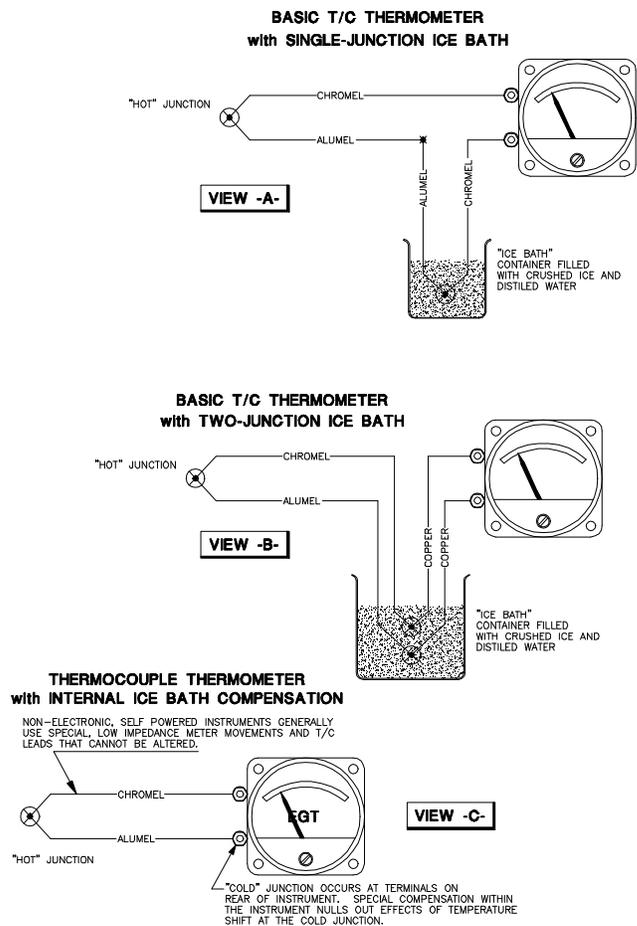
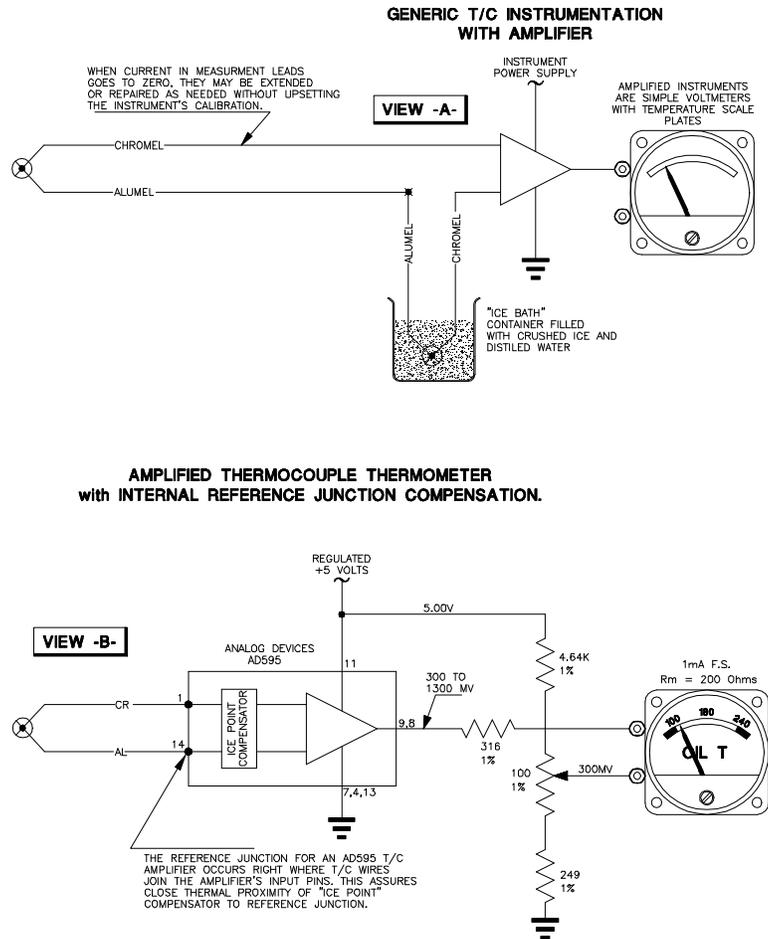

Figure 14-10. Generic T/C Thermometers and Various Cold Junction Techniques.
Figure 14-12. Amplified Thermocouple Thermometers.
In Figure 14-10, View -A-, I show two chromel-alumel thermocouples hooked in series with their alumel wires
While on the topic of high impedance instruments for thermocouples, I'll call your attention to Figure 14-12. In View -A- the hot-junction and reference-junction setup is similar to Figure 14-10, View -A- except: an electronic amplifier inserted between thermocouple wires and indicator. Some interesting things happen when you add an amplifier. (1) the indicator becomes a simple, much less expensive, voltmeter and (2) the current flowing in the thermocouple wires is for all practical purposes, zero. Length of thermocouple wire is no longer critical; insertion of a selector switch to manage many thermocouples is feasible. The last inconvenience to eliminate is the requirement for an ice bath
A company called Analog Devices builds integrated circuits for thermocouple signal conditioning. A sample circuit is shown in Figure 14-12, View -B-. The AD594 integrated circuit is designed to provide amplification, cold junction compensation and linearity compensation for type J thermocouple wire, the AD595 is used with type K wire. The device outputs a voltage of 10 millivolts per °C of thermocouple temperature. These circuits will work in the minus temperatures if two power supplies (+5 and -5 volts) are provided. Thermocouples work best above 0°C and are quite suited for oil, EGT and CHT measurements. For these parameters, temperatures of interest are well above 0°C. Therefore, a single +5 volt supply works fine for measurements between 10°C (.10 volts) and about 300°C (3.00 volts).
For example: Let us suppose you want to display oil temperature over the range of 30 to 130 degrees C (86 to 266 degrees F). The output from the AD595 and type K wire will be 300 to 1300 millivolts over that range (10 millivolts per degree C). So, instead of designing a differential voltmeter for 10-16 volts as in Chapter 7, we're going to design for 300 to 1300 millivolts. The values shown in Figure 14-12 are appropriate for a meter having a full scale current of 1
Several manufacturers build VTDs that look for all the world like a simple, zener diode voltage regulator. However, this "regulator" is very unstable - in fact, it drifts at a rate exactly equal to 10 mV/°K or 10 mV/°R. Hmmm . . . we saw that 10 millivolt figure earlier. That's become a sort of industry standard for temperature measurement devices. Everyone builds parts calibrated for measuring C-size degrees, most also make F-size parts too. Figure 14-14 shows a basic thermometer using a calibrated VTD. The indicator is nothing more than a voltmeter with scale factor of 10mV per degree times total degrees of span and an offset equal to 10mV per degree times the lower end of scale temperature reading. The architectures for expanded scale voltmeters described in Figure 14-12 and Chapter 7 are applicable.
VTDs are **calibrated** devices as supplied from the factory. They are quite accurate, typically plus or minus 1.0°C or better. Their scale factor of 10 mV/°C is the same as the thermocouple amplifier shown in Figure 14-12, but they are somewhat simpler to use as illustrated in Figure 14-14. Their disadvantage is that their operating temperature ranges do not span as far as thermocouples. They are currently unable to measure exhaust gas temperatures; exhaust gases will remain an exclusive domain of thermocouples. Further, few solid state sensors are rated for temperatures experienced on cylinder heads. However, they do work well at low temperatures (below 0°C); actually better than thermocouples. Therefore, VTDs are well suited for OAT measurement. Their large inherent scale factor of 10°C overpowers parasitic thermocouples which exist in the interconnect wiring so leadwires between instrument and solid state temperature sensors require no special treatment.